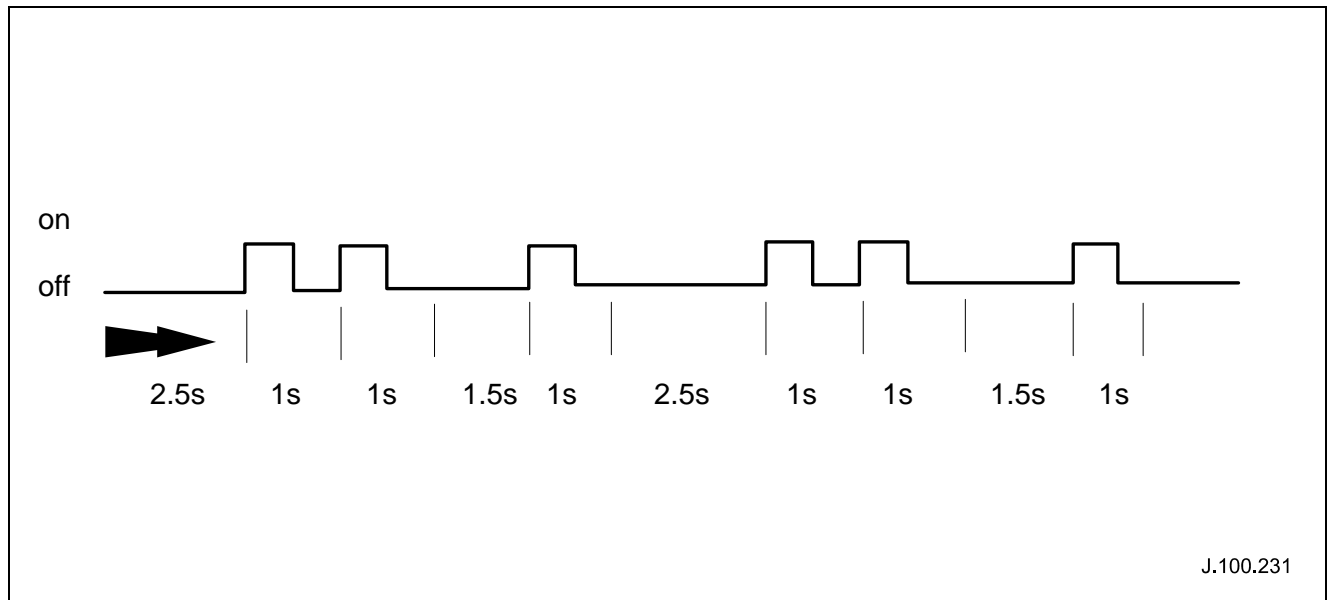

Fig. 2
When a PATS fault is apparent, the instrument cluster will store a DTC and indicate this to the customer by illuminating the LED in the following manner. The LED will be illuminated for 60 seconds (flashing for customer fault codes, continuous for non-customer fault codes); the LED will then be extinguished for 2.5 seconds. The first digit of the fault code will then be flashed. The total LED 'on/off' time per single flash will be one second, this being repeated for the relevant number of times to count the first digit. The LED is then off for a further 1.5 seconds before the second digit of the fault code is flashed, again the total 'on/off' time per single flash will be one second with the number of repeats being the second digit (see Fig. 2 below). The fault code flash routine will be repeated up to 10 times. The indication will stop immediately if the ignition is turned to 'OFF' at any time during the fault indication sequence. **(Note: Only the highest priority fault code will be flashed)**
- Example (see Fig. 2); fault code 21 (all times in seconds from left hand side 2.5s, 1s, 1s, 1.5s, 1s, 2.5s, 1s, 1s, 1.5s and 1s)